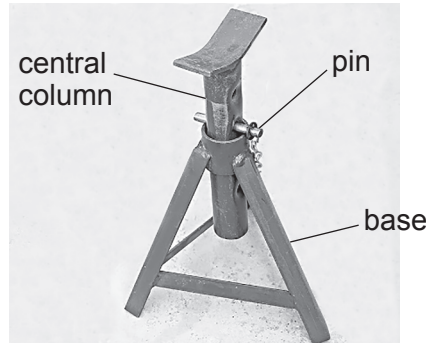

Fig. 1.1
- 1 Fig. 1.1 shows an adjustable height axle stand used to support the weight of a vehicle.